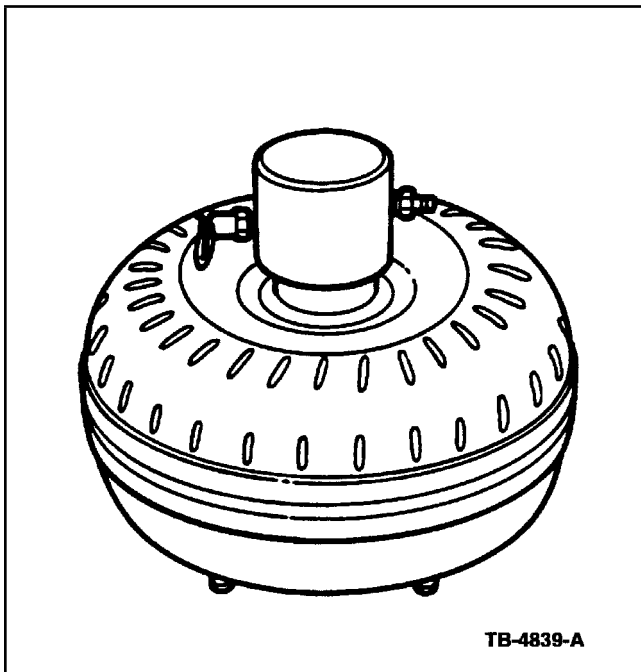

Figure 1 - Article 96-24-9
2. Install the Torque Converter Leak Test Tool and Gasket (014-R1075) into the converter hub. Figure 1.